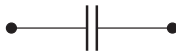

FIGURE P2.4 Image for Problem 2.4.
- 2.4 (B) Identify the device in Figure P2.4: